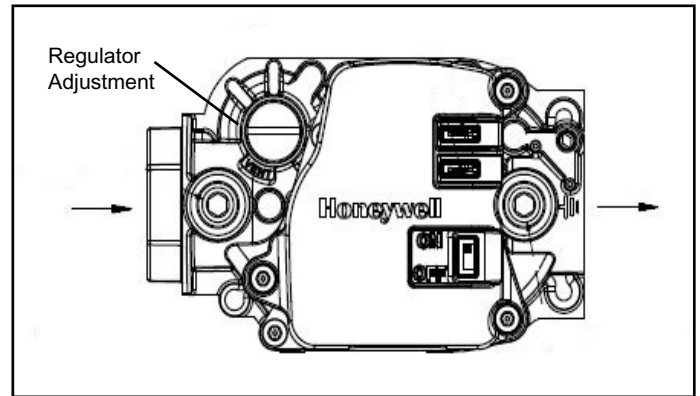

Figure 7. Gas Valve
3. Slide the gas valve switch to the "ON" position (see Figure 7).
2. Slide the gas valve switch to the "OFF" position (see Figure 7).
above specified pressures. To adjust the regulator, turn the adjusting screw on the regulator clockwise to increase pressure and input or counterclockwise to decrease pressure and input. See Figure 7 to assist in locating the regulator on the gas valve.
1. Slide the gas valve switch to the "OFF" position (see Figure 7).